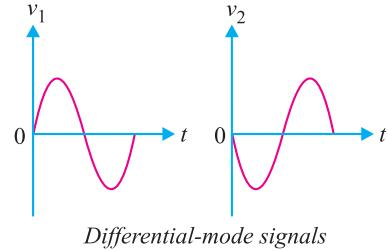

Fig. 25.9
**(ii) Differential-mode signals.** When the input signals to a DA are  $180^\circ$  out of phase and exactly equal in amplitude, they are called *differential-mode signals* as shown in Fig. 25.9.